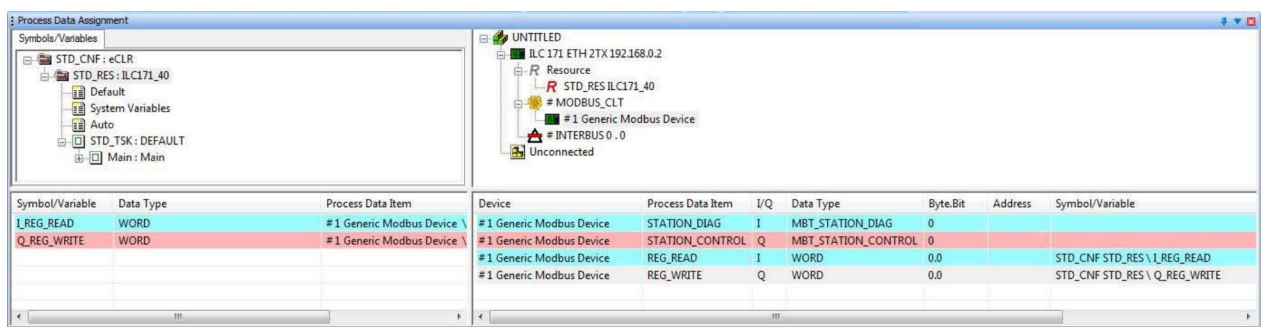

Figure 6 All used process data assigned to variables
- In the top right window, select the device for which you would like to link the process data to variables (in Figure 6: Generic Modbus Device; in the example: EM-MODBUS-GATEWAY-IFS).
The result of the process data assignment is shown in Figure 6.